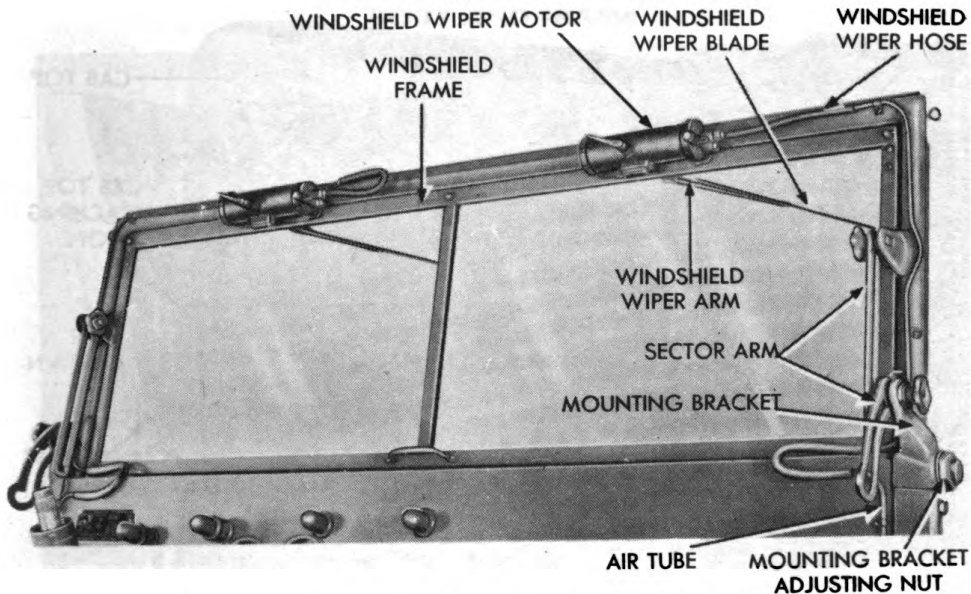

Figure 98 – Windshield Installed
(1) **DESCRIPTION** (fig. 98). The wipers are individually operated and are located at top center of windshields. These wipers are air operated by means of an air line connected to the air brake system. Speed of wiper action is regulated by two valves on the instrument panel (fig. 3).
(2) TABULATED DATA:
b. Maintenance (fig. 98). Check air lines for plugged line or fittings, kinked hose or tubing, and leaks. Tighten all connections. Lubricate seal felts around shaft with light engine oil at each lubrication period. If wiper fails to operate after line had been thoroughly checked, replace the entire assembly. Replace deteriorated wiper blades or blades that will not clean windshield properly.
c. Removal (fig. 98). Disconnect hose from air line. Remove cap screw which secures wiper arm to wiper motor. Remove arm
d. Installation (fig. 98). Position wiper motor to windshield frame and secure with two screws and lock washers. Attach wiper arm to motor by installing the cap screw which secures it. Connect hose to vacuum tube.
a. Description (fig. 98). The windshield is located at top rear of cowl assembly. It provides protection from the weather, road dirt, and insects without interfering with the operator's vision. Sector arms, manually controlled, make it possible to open the windshield to any degree desired. If desired, the entire windshield assembly can be folded forward on the cowl.
b. Removal (fig. 98). Disconnect air hose from air tube at bottom of windshield on either side. Loosen windshield mounting bracket, adjusting stud nut, and adjusting stud on each end of windshield assembly. Lift assembly from mounting brackets and remove.
c. Installation (fig. 98). Position windshield assembly in mounting brackets. Tighten two adjusting studs and adjusting stud nuts which secure assembly to brackets. Connect air hoses to vacuum tubes at bottom of windshield on each side.